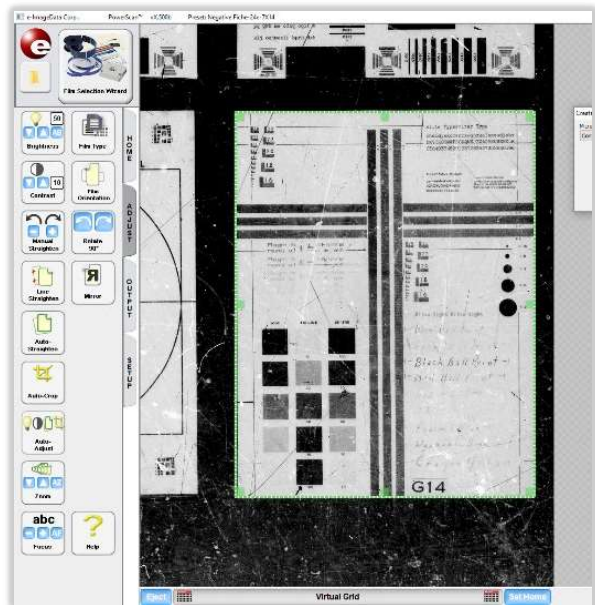

Figure 81
- t. The AUTO-Carrier will move to the right side of the fiche. Using the double arrow click anywhere on the top border of the image on the screen. *Figure 81*